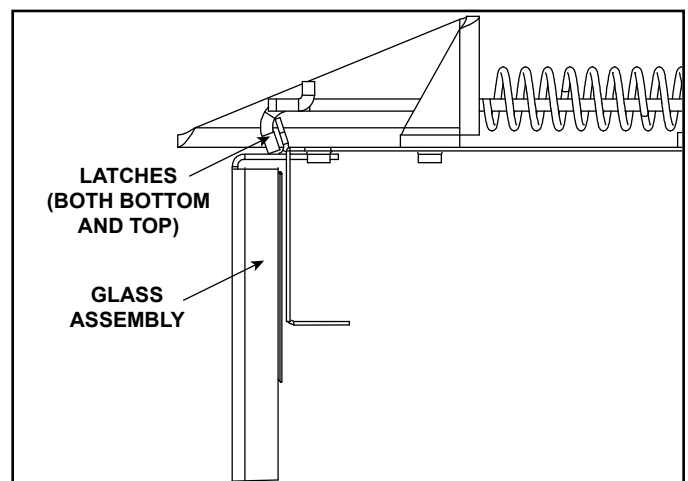

Figure 11.20 Fixed Glass Assembly
- Pull the four glass assembly latches out of the groove on the glass frame. Remove glass assembly from the appliance. See Figure 11.20.